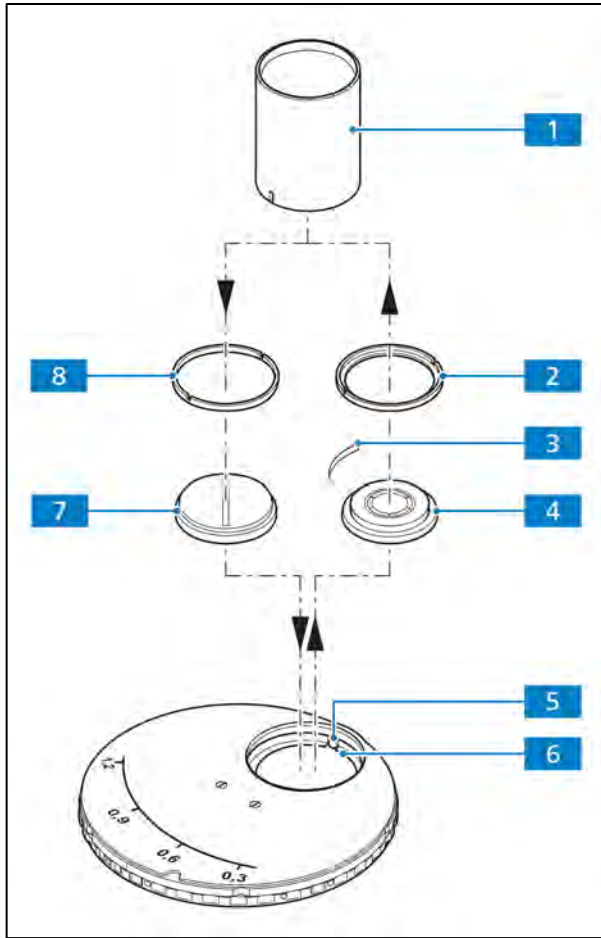
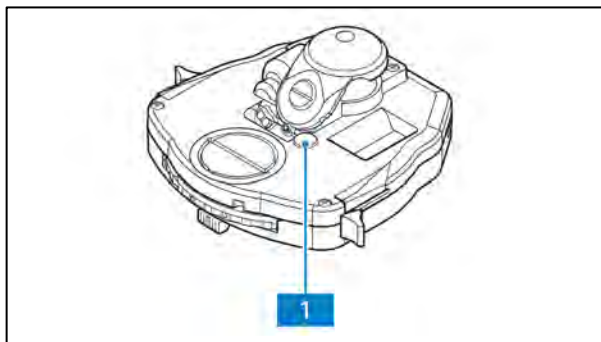

Fig. 3-50 Mounting the slit-diaphragm
Fig. 3-51 Changing the PhC-DIC-PlasDIC diaphragm
- Screw the modulator disk's centering screws (Fig. 3-50/5) with the aid of an Allen wrench back until they stop.
- Unscrew the adapter ring (Fig. 3-50/2) of the PhC diaphragm with the included tool (Fig. 3-50/1).
- Remove the PhC diaphragm (Fig. 3-50/4) and spring (Fig. 3-50/3).
- With the aid of the tool (Fig. 3-50/1), insert the slit diaphragm (Fig. 3-50/7) with the cams into the orientation grooves (Fig. 3-50/6).
- Screw in the adapter ring (Fig. 3-50/8) included with the slit diaphragm with the aid of the appropriate tool (Fig. 3-50/1).
- Remove the cover (Fig. 3-51/1). Turn the screw (Fig. 3-50/5) with the Allen wrench (AF 1.5) counter-clockwise to the stop. You can now close the aperture diaphragm for contrasting procedures in DIC.